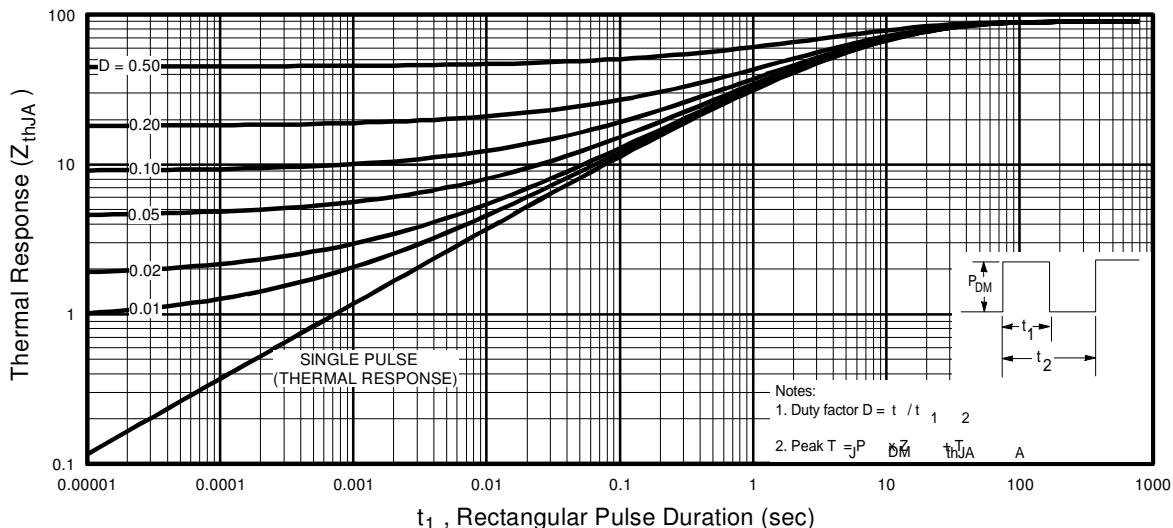

Fig 23. Maximum Effective Transient Thermal Impedance, Junction-to-Ambient
① Repetitive rating; pulse width limited by max. junction temperature. ( See fig. 23 )